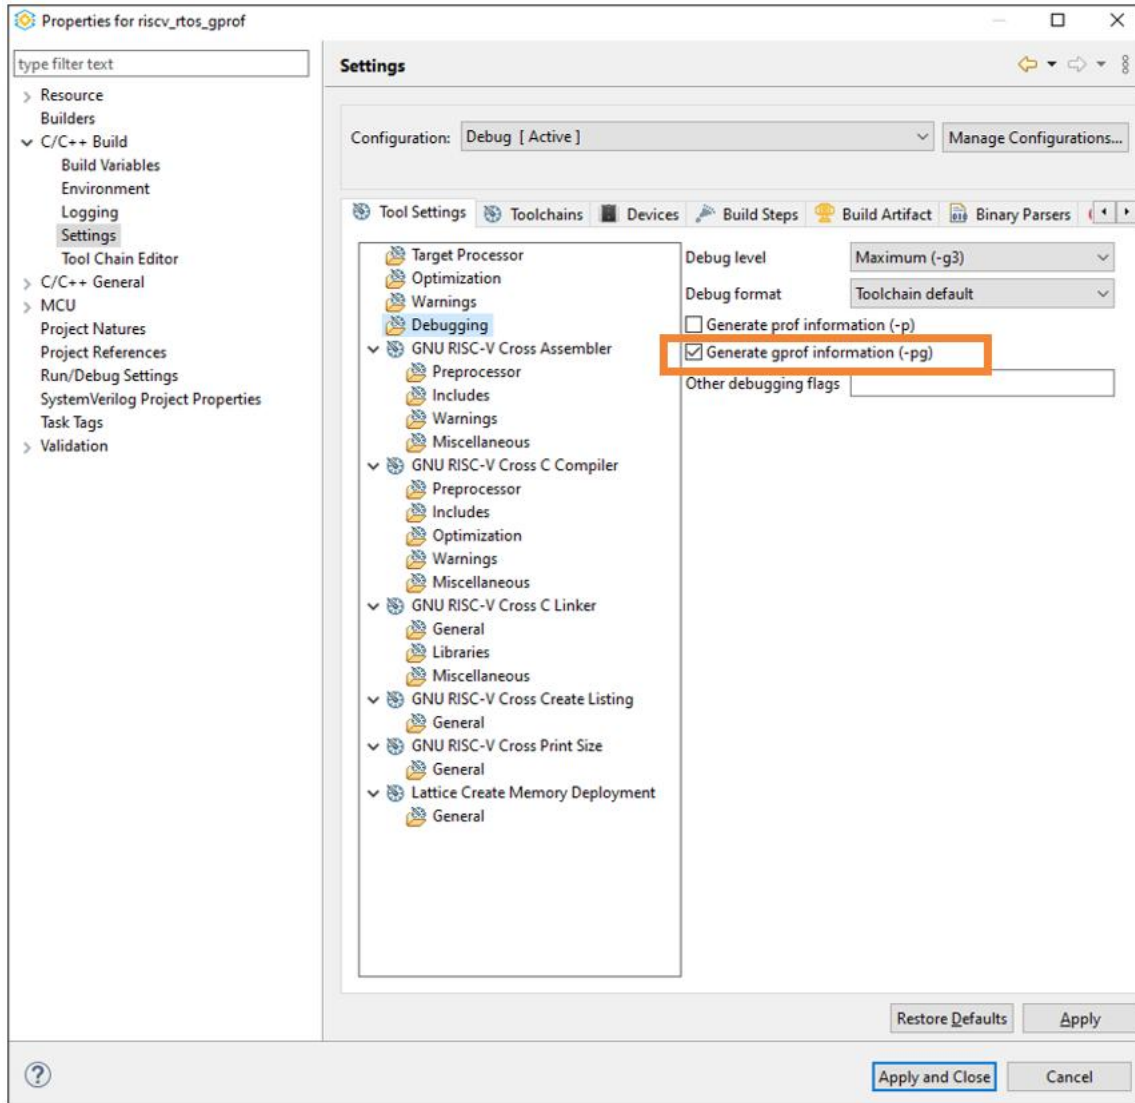

Figure 5.33. Generate gprof Information Checkbox
3. Select **Debugging**. Enable the **Generate gprof information** checkbox (Figure 5.33).